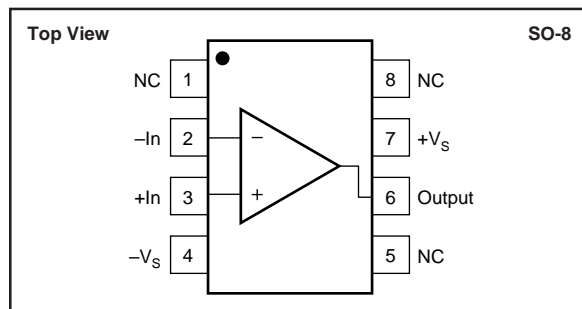

FIGURE 1. Pin Configuration for OPA6xxU.
The DEM-OPA68xU demonstration board is an unpopulated printed circuit board (PCB) for Burr-Brown's high speed single op amps available in SO-8 packages. Figure 1 shows the pin out used for most of these op amps. Table I lists the exceptions to this pin-out that are also supported by this board. For more information on these op amps, and good PCB layout techniques, see the individual data sheets.
TABLE I. Supported Exceptions to Pinout in Figure 1.
**Standard Current-Feedback Op Amps**—These op amps have the pinout shown in Figure 1. Table III shows typical values used for these parts. To select component values for your op amp (especially R6), consult its data sheet.
**Standard Voltage-Feedback Op Amps**—These op amps have the pinout shown in Figure 1. Table IV shows typical values used for these parts. To select component values for your op amp, consult its data sheet.